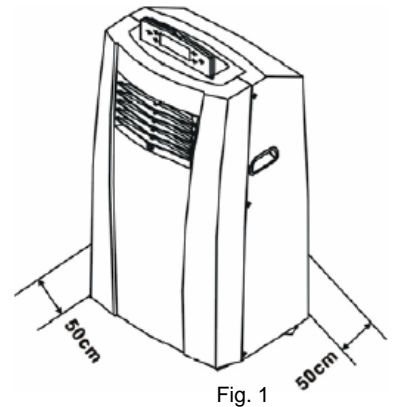

Fig. 1
1. The unit should be installed in a flat dry place. Leave at least 50cm space around the unit (Fig. 1).